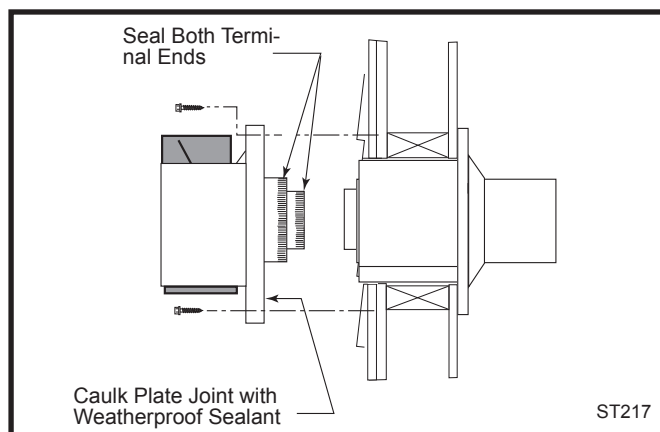

Fig. 29 Install the vent terminal.
10. **For both MHSC and DuraVent Systems:** Install the vent terminal. (Fig. 29) Apply high temperature sealant one inch from the ends of the inner and outer collars. Guide the inner and outer vent termination collars into the adjacent pipes. Double check that the vent pipes overlap the collars by 2". Fasten the termination to the wall with the screws provided, and caulk the joint with weatherproof sealant.